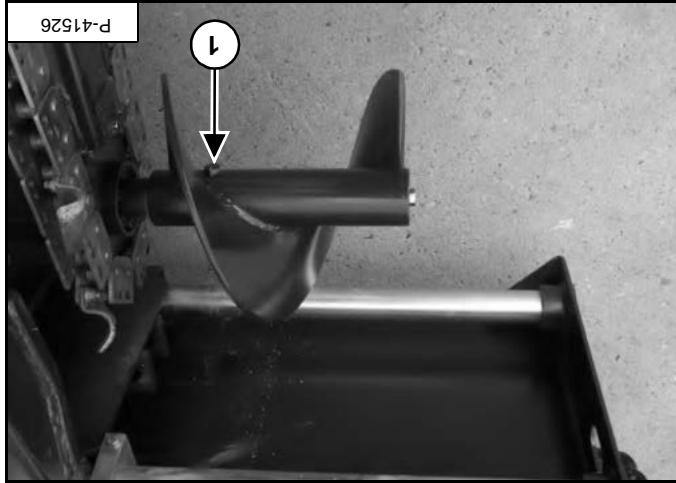

Figure PM-2
**LT213 and LT313 Installation:** Tighten auger mounting bolt and nut from the mounting bolt (item 1) [Figure PM-2] and nut to 88-95 N·m torque. **LT414 Installation:** Tighten auger mounting bolt and nut to 170-190 N·m torque.